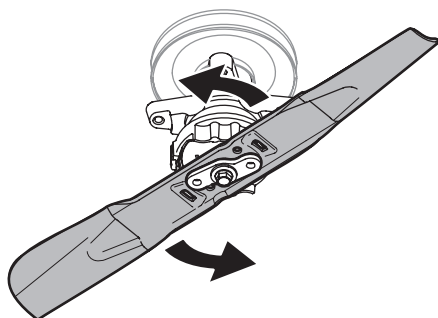

Figure 2
4. While holding the collar in the upward position, rotate the blade counter-clockwise to free it from the collar. See Figure 2.